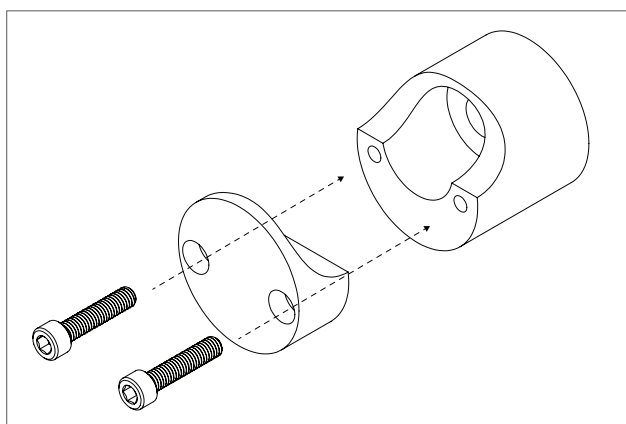

Figure 3
6. Attach front of tube spacer, but do not tighten (Figure 3).